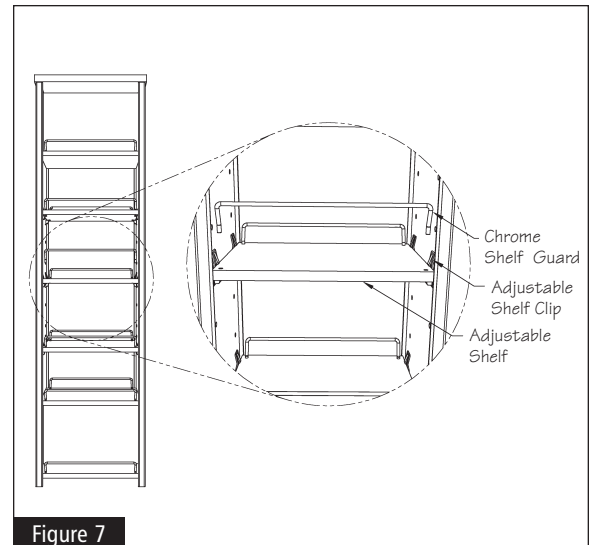

Figure 7
- 16** Insert the Chrome Shelf Guards into the pre-drilled holes for each shelf. Place the adjustable shelf clips in the holes on the inside of the shelf assemblies at the desired locations. Place the shelves into the shelf clips by pressing down on the shelf. See Figure 7.